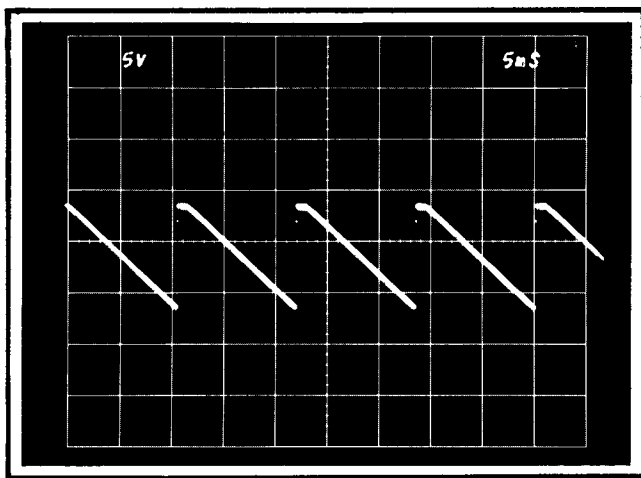

Fig. 5-15. Sweep Out waveform to check Repetitive Scan rate.
d. Check that the time per sweep (sawtooth) is 25 ms or less; see Fig. 5-15.